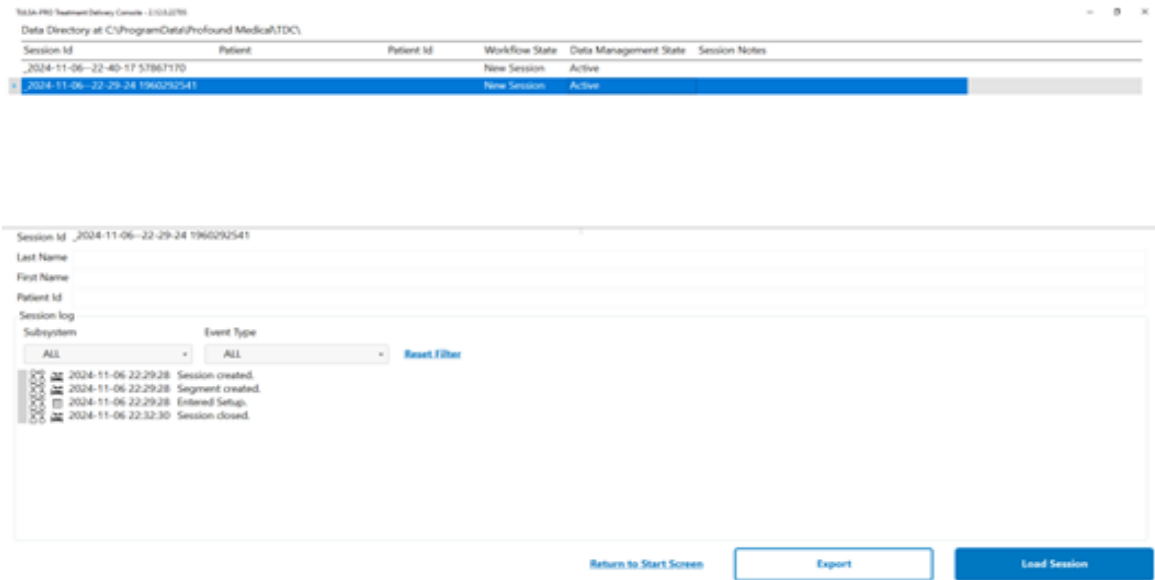

Figure 65: TDC Manage Sessions screen
2. On the TDC **Manage Sessions** screen (Figure 65), select a treatment session and click **Export**.